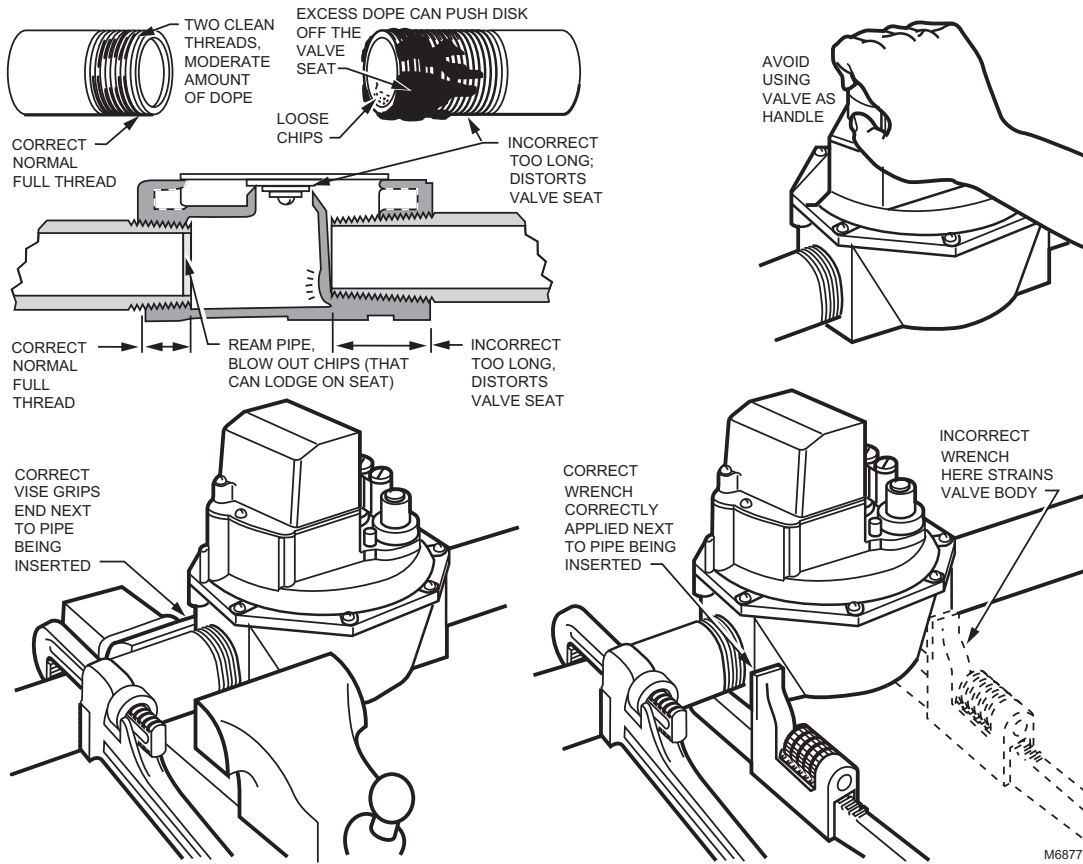

Fig. 10. Preparing the piping and installing the valve.
Prepare Piping and Install Valve (Fig. 10).
4. Install the valve in a horizontal pipe line in an upright position with the gas flow in the direction indicated by the arrow on the casing. The valve must be upright (electrical connection tower in the up position) on a horizontal axis with respect to the inlet connection (see Fig. 10). Certain models may be mounted in the limited horizontal position (any position from upright to 90 degrees to upright on an horizontal axis with respect to the inlet connection. See Specifications section.)